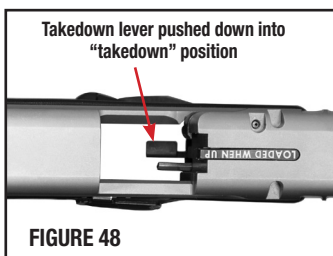

FIGURE 45
- Make certain that the chamber is clear (FIGURE 45).